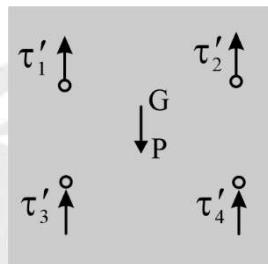

Fig.4.42: Direction of primary shear stress
- **Direction:** Direction of primary shear stress will be same at each point of bolt/rivet & will be opposite to force P. As shown in figure 4.42.